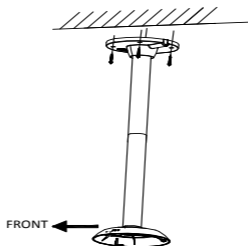

Figure 2-10 Install the Bracket
1. Install the bracket. Fix the pendant bracket on the place where you want to install the camera as shown in Figure 2-10.